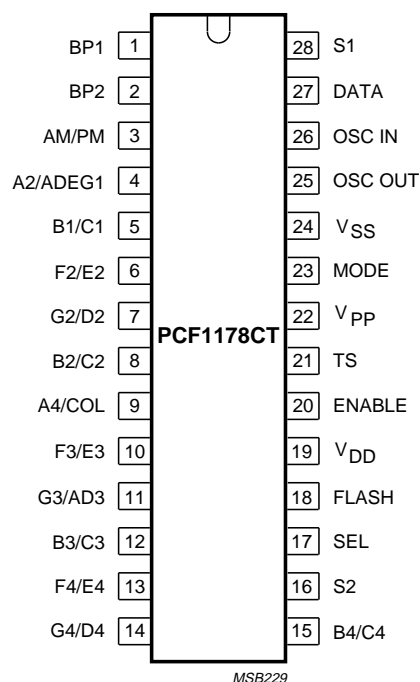

Fig.1 Pin configuration, PCF1178CT, (SO28).
1. See Fig.1 and Chapter “Package outline” for pin layout and package details.